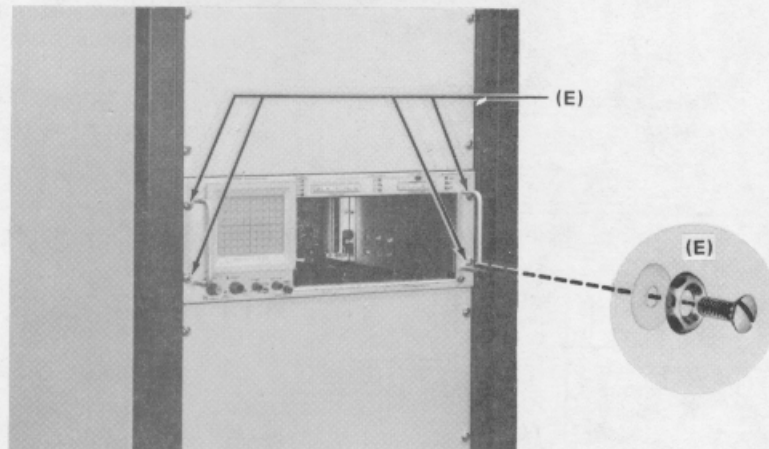

Fig. 6-5. Procedure for inserting or removing the instrument after the slideout tracks have been installed.
4. Refer to Fig. 6-5 to insert the instrument into the rack. Do not connect the power cord or install the securing screws until all adjustments have been made.
7. Push the instrument all the way into the rack and secure it to the front-rail of the rack with the securing screws and washers shown in Fig. 6-5. If the top securing hole is not tapped, use a "speed-nut" or similar item to install the top screw.
After initial installation and adjustment of the slide-out tracks, the R7704 can be removed or installed by following the instructions given in Fig. 6-5. No further adjustments are required under normal conditions.